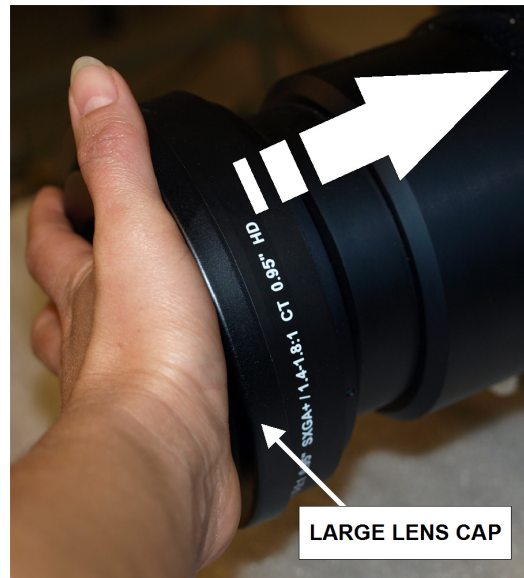

FIGURE 2-2
- Align the lens interface plate with the lens mount. Align the lens electrical connector with the mating connector on the lens mount. Fully insert the assembly straight into the lens mount opening without turning. Press using your hand as shown in *Figure 2-2*. **NOTE:** When installing the lens, ensure that the lens is not inserted at an angle, as this can cause damage.